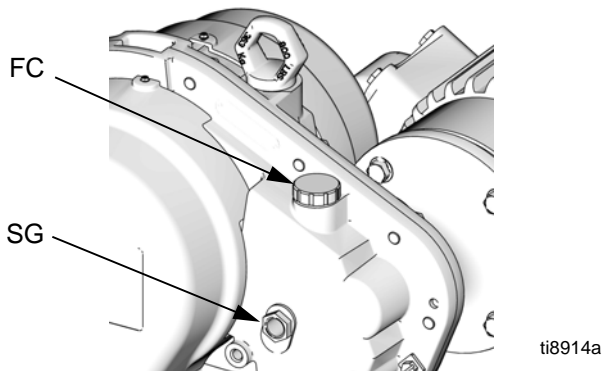

FIG. 8. Oil Fill
Every day, check the oil level in the sight glass (SG) on the gear reducer, with the motor running. Oil level (with motor running) should fall between top and bottom of the sight glass (SG). Open the fill cap (FC) and fill the gear reducer oil reservoir as required with Graco 288414 Oil (package includes twelve 1 quart bottles). Do not overfill. See FIG. 8.